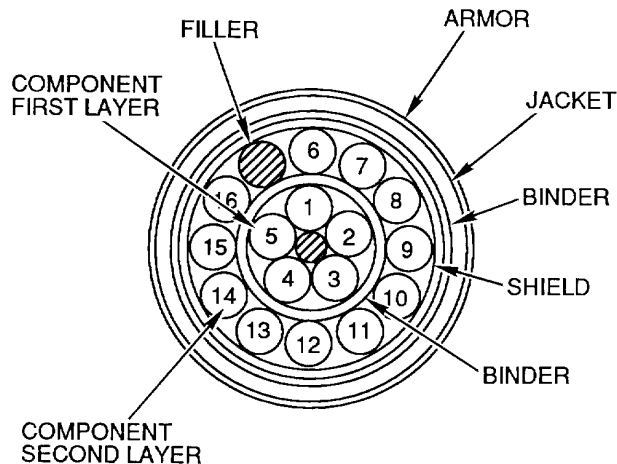

Figure 7. Typical Multiconductor Cable Design
39. **ELEMENTS.** There may be as few as four elements or as many as are conducive to good design and construction. All the elements listed are not required in cable construction but may be found. A basic multiconductor cable design is shown (Figure 7).